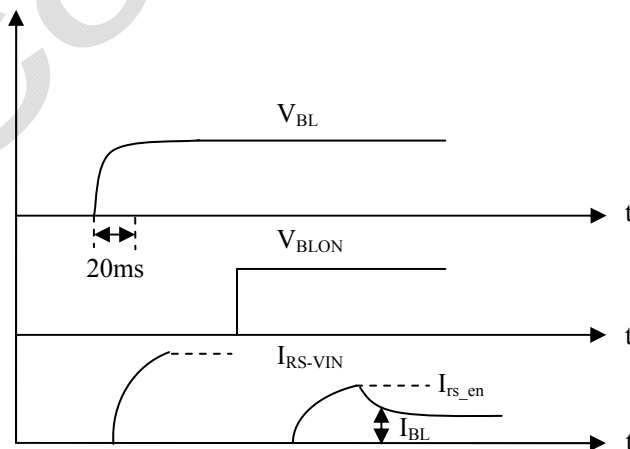

Fig. 3.4 The timing sequence diagram of inrush current measurement
- (1) Dimming ratio = 100% (Max.) ($T_A = 25 \pm 5 \text{ }^\circ\text{C}$, Turn on for 45minutes).
- (2) The measurement condition: V_{BL} rising time is 20 ms. (V_{BL} from 10% ~ 90%), the sequence diagram is shown as Fig. 3.4.
- (3) Normal: 0 ~ 0.8V; Abnormal: Open collector.